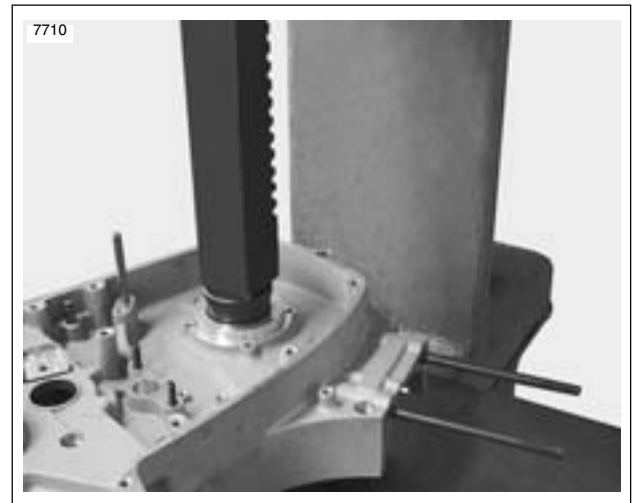

Figure 3-129. Left Outer Race Bearing Installation
See Figure 3-129. Use *SPROCKET SHAFT BEARING OUTER RACE INSTALLATION TOOL* (Part No. HD-39458) to install left and right outer races of sprocket shaft tapered roller bearings into left crankcase half. Always install left outer race prior to installing right outer race because the installer base is usable only when you follow this sequence of race installation.
7. See Figure 3-129. Insert shaft of installer plug through right outer race and into installer base. Press race into bore until firmly seated against retaining ring.
See Figure 3-129. Use *SPROCKET SHAFT BEARING/SEAL INSTALLATION TOOL* (Part No. HD-42579) to install sprocket shaft tapered roller bearings and seal.
8. See Figure 3-129. Install inner bearing.